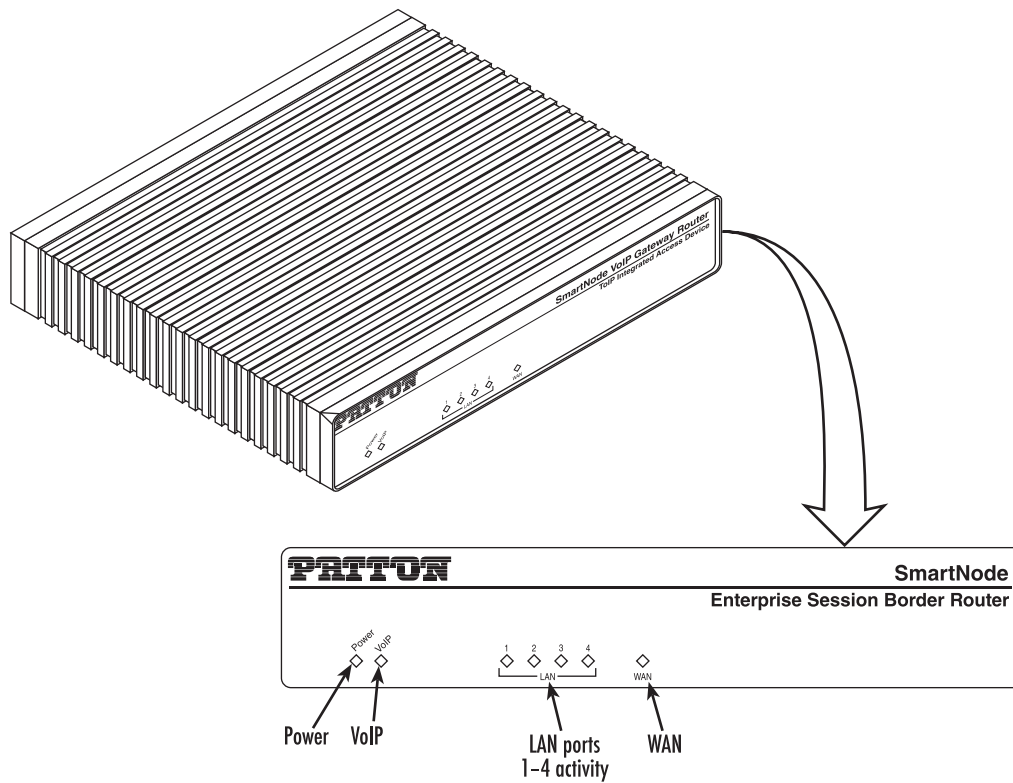

Figure 6. Router front panel LEDs
4. Verify that the green *Power* LED is lit (see Figure 6).